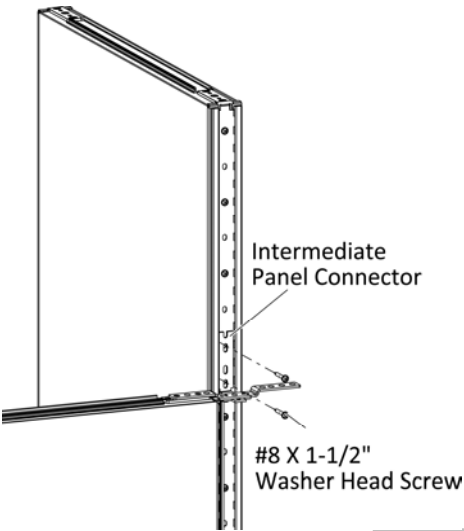

Figure 4
- Drive two #8 X 1-1/2" Washer Head Screws through the holes in intermediate panel connector into the taller panel, (Figure 4).